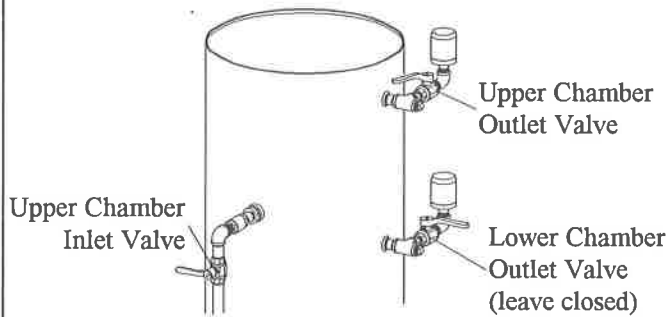

Figure 5
3.8 Cycling the Upper Chamber (refilling the upper chamber while blasting from the lower chamber). Ref. Figure 5. See Section 3.9 for automatic refilling.